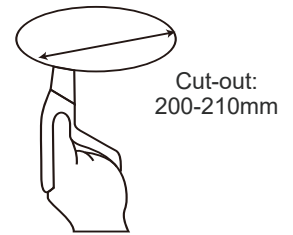

Fig. 2
- Wire the cable as per the wiring diagram fig. 2.